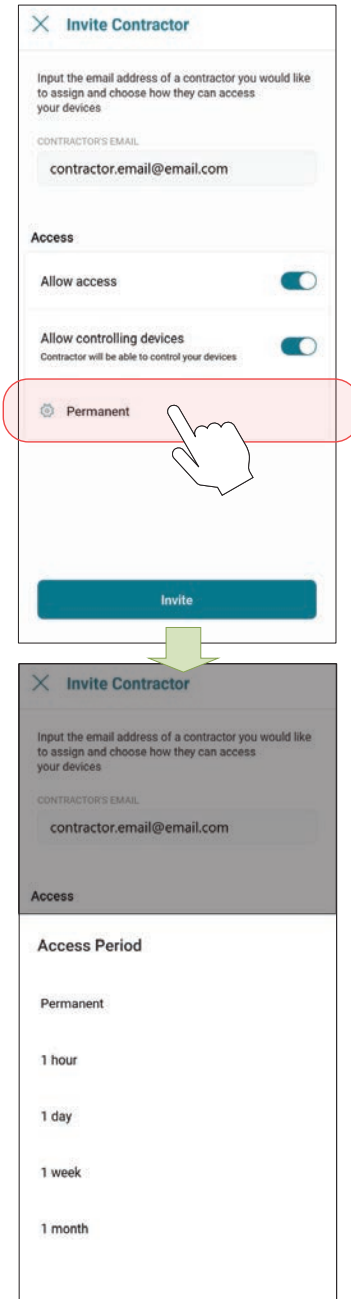

Figure 111. Enter Contractor Email and Access Level
6. Add your contractor’s email and select the access options as needed. See Figure 111: